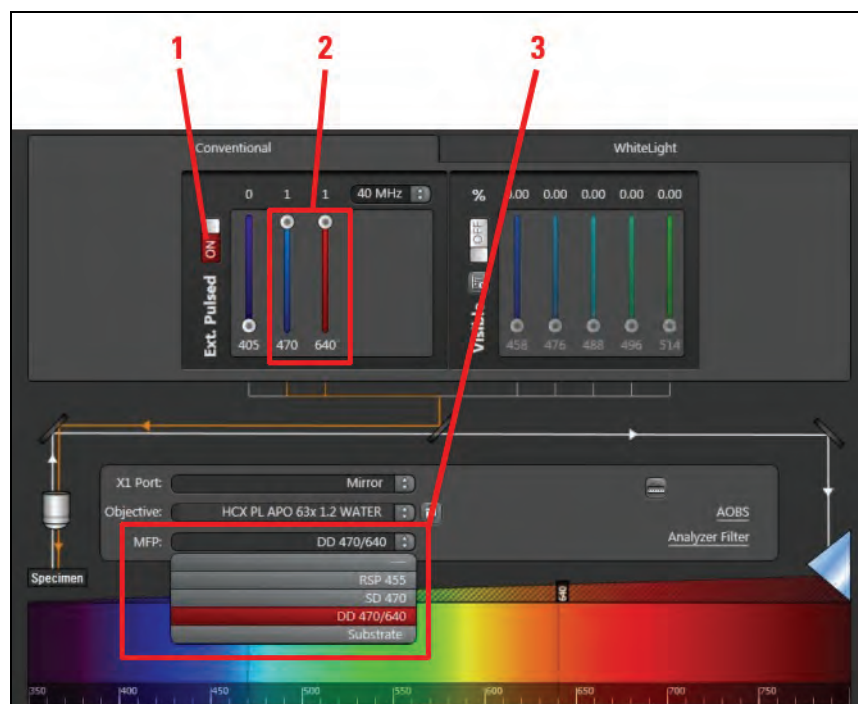

Figure 117: Settings for using pulsed VIS lasers as excitation source
2. Open the shutter for pulsed lasers by activating the corresponding button (**Figure 117, item 1**).
3. Activate the desired laser by moving the corresponding slider upwards (**Figure 117, item 2**).